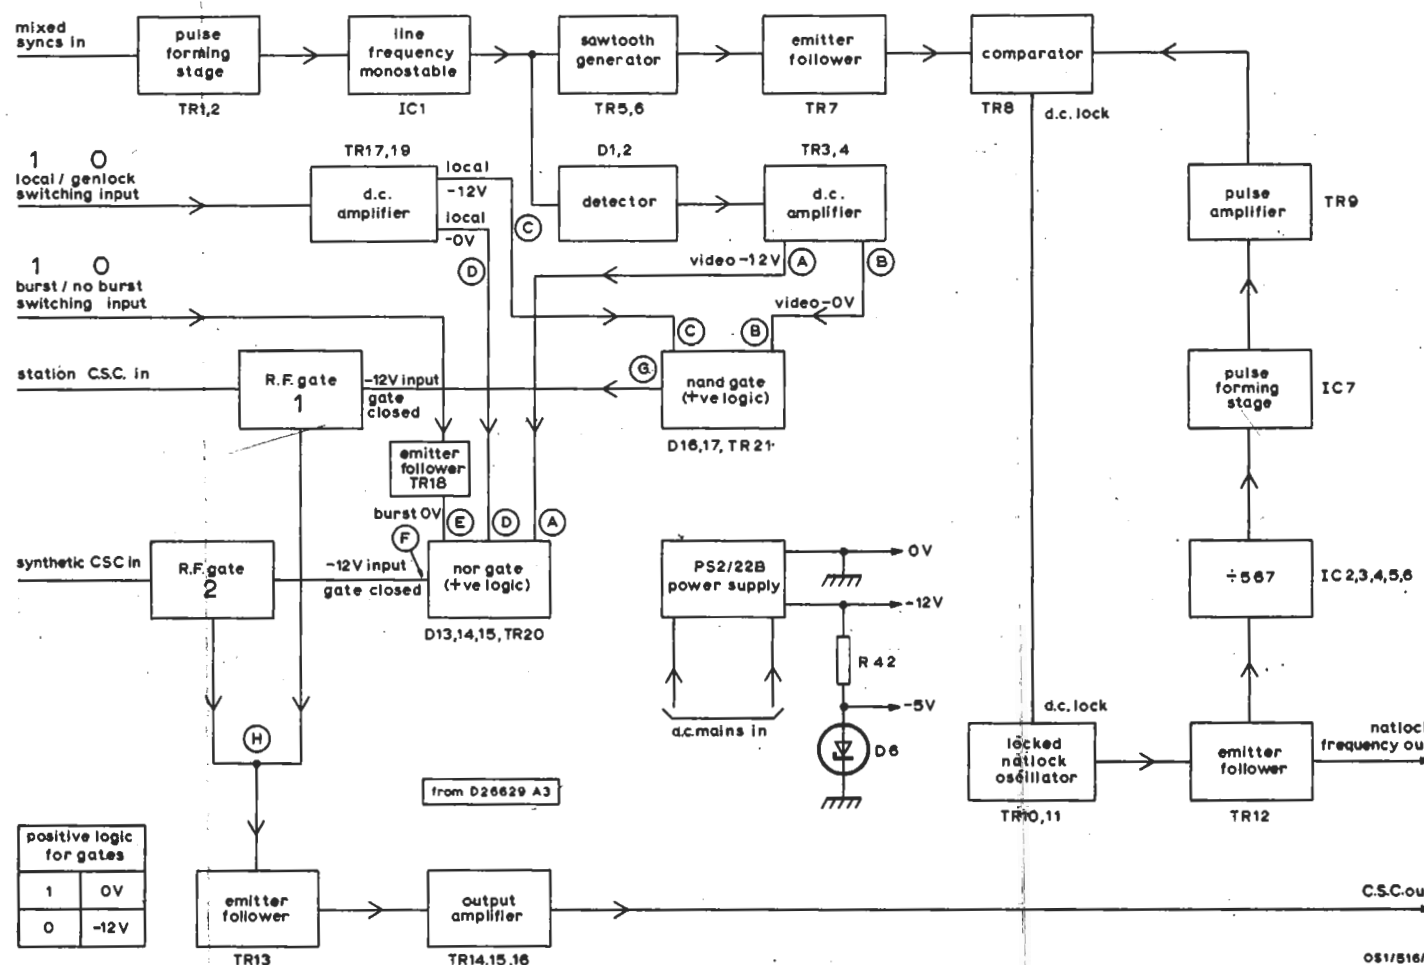
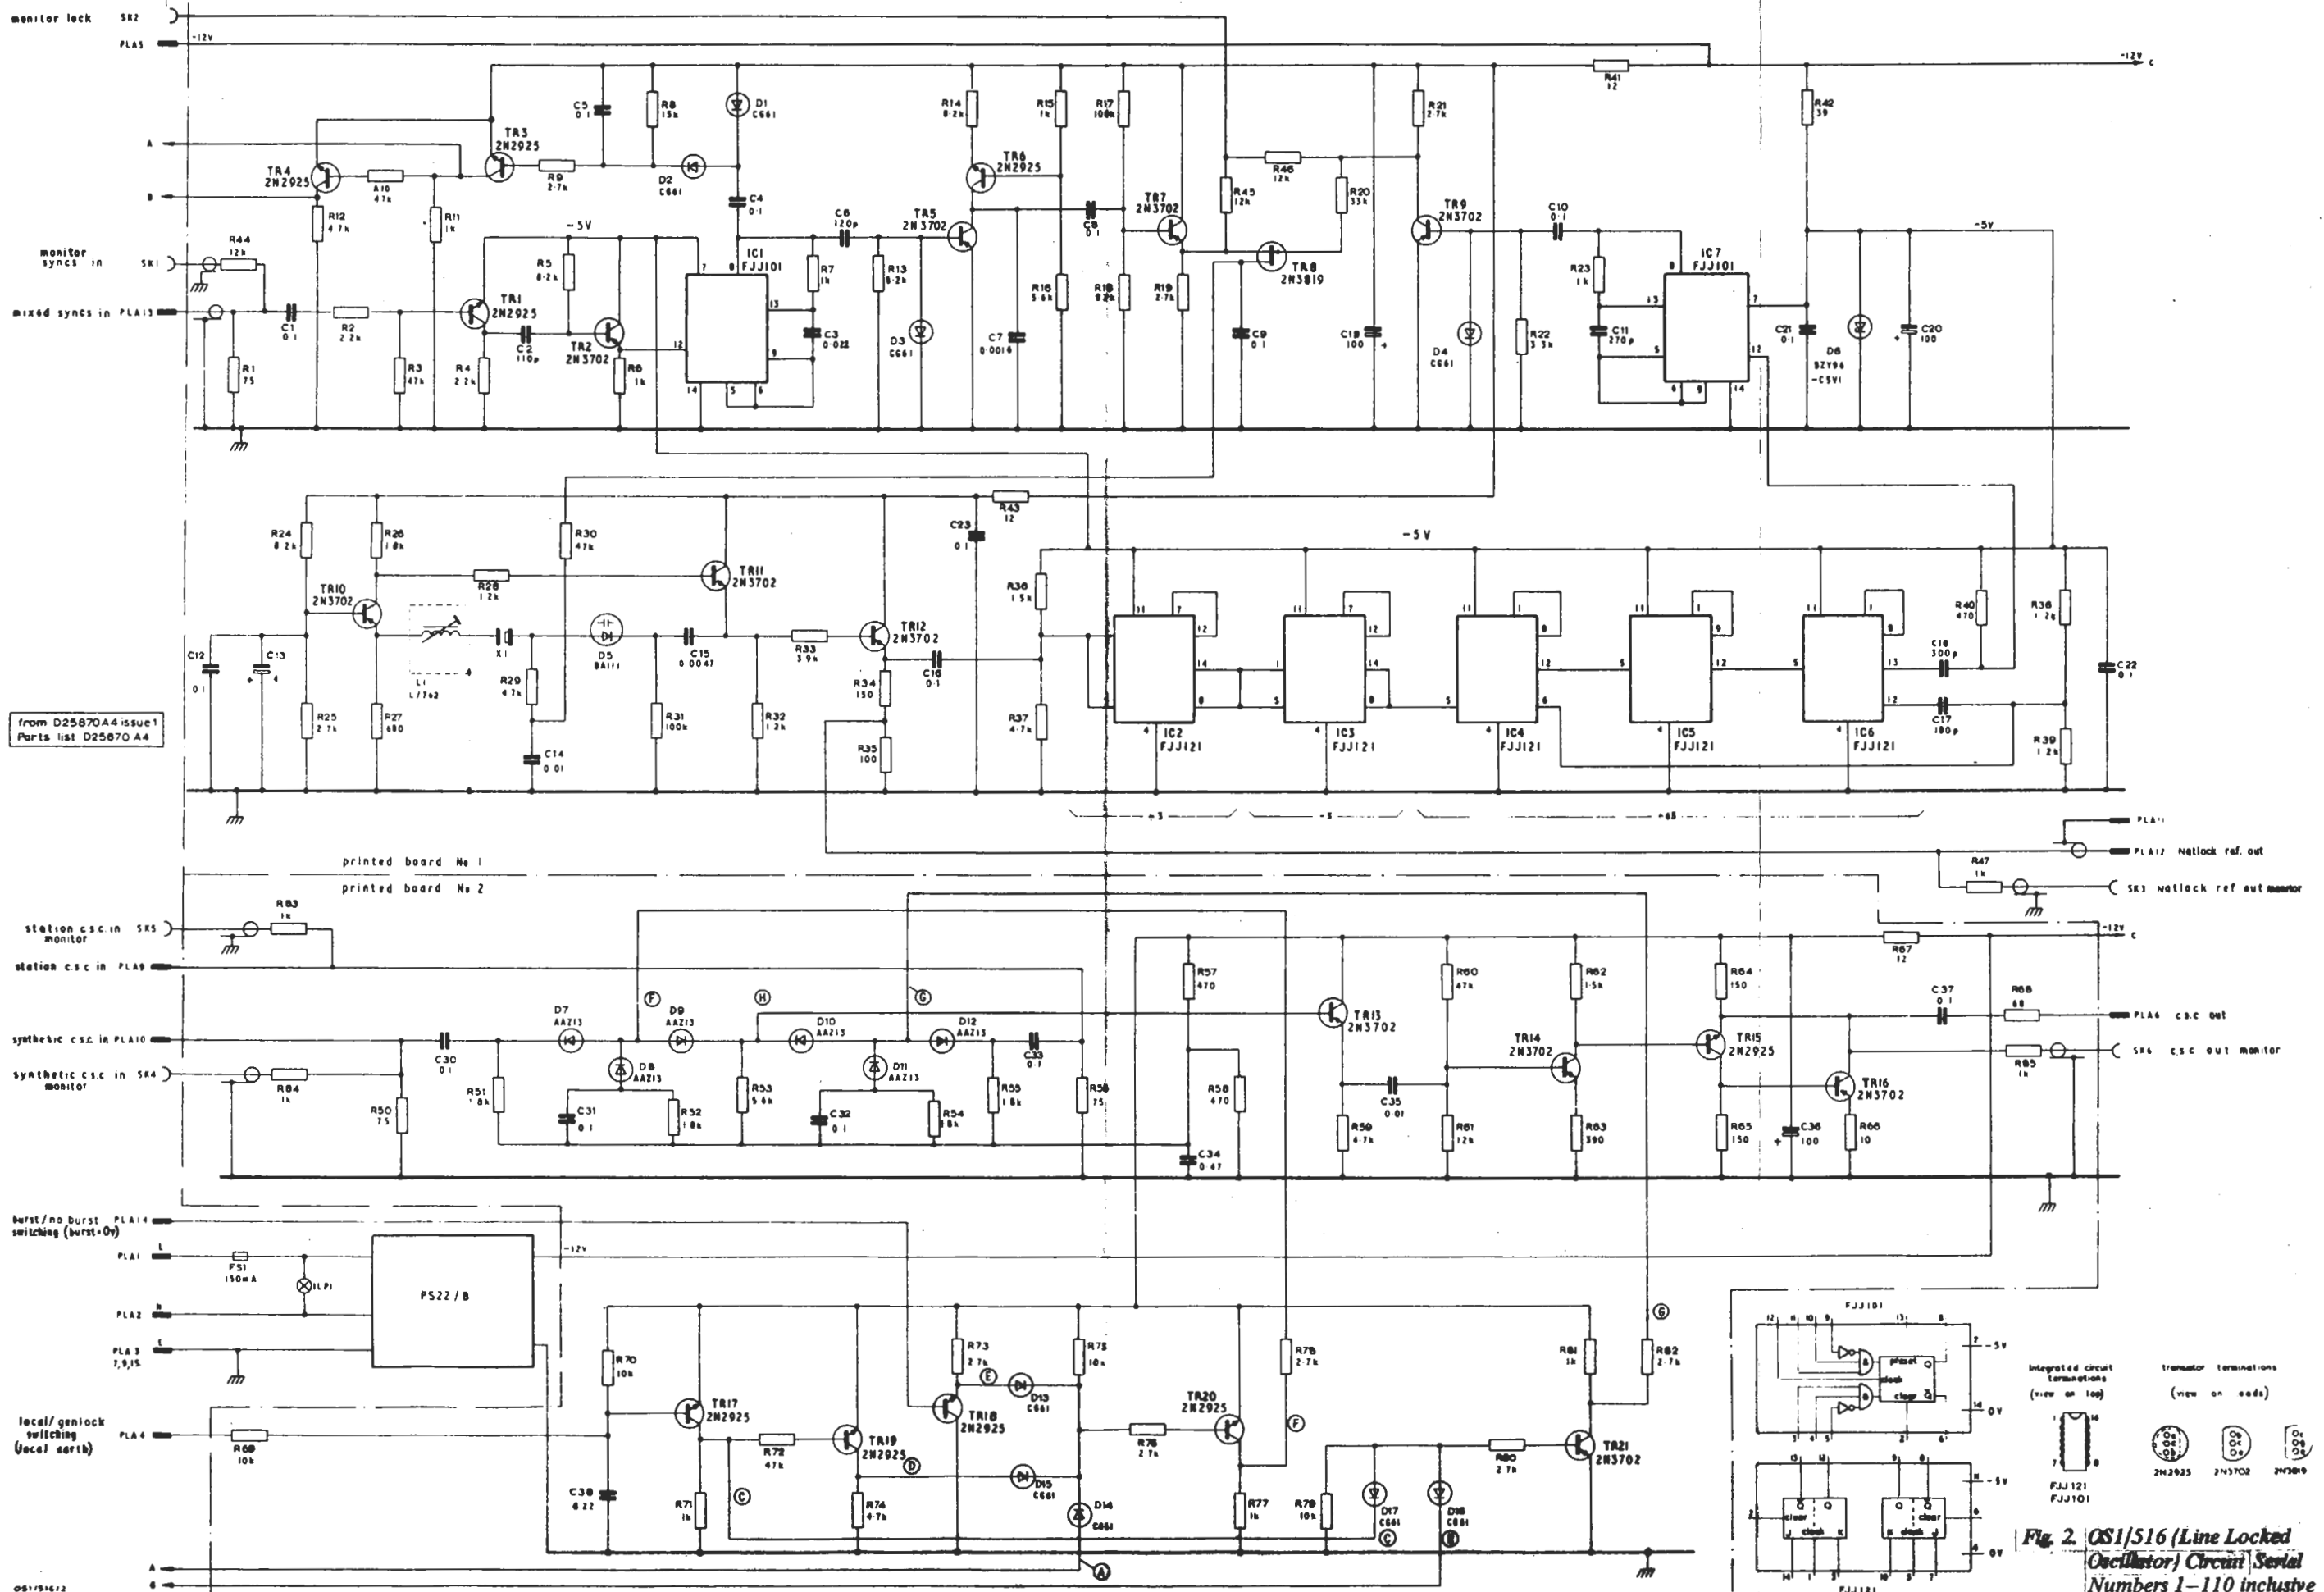

Fig. 1. Block Diagram of the OS1/516
Fig. 2. OS1/516 (Line Locked Oscillator) Circuit Serial Numbers 1-110 inclusive
Fig. 1 shows a block diagram of the OS1/516.
The Local/Genlock and Burst/No Burst control inputs are switched to 0 V or -12 V outside the OS1/516, but the Video/No Video control signals are derived within the unit. An output of monostable IC1 is applied to a detector formed by D1 and D2, the output of which is integrated and fed to a d.c. amplifier TR3 and TR4. TR3 output (designated A in Figs. 1 and 2) is -12 V when syncs are present at the input of the unit and 0 V when they are not. Conversely TR4 output (designated B in Figs. 1 and
2) is 0 V when syncs are present and -12 V when they are not. Points A and B are connected to the gating circuits as shown in Fig. 1.
Note: Gate inputs on this Table are in the order in which they are shown on Fig. 1, i.e. E, D, A for the NOR gate and C, B for the NAND gate.
The circuit of the OS1/516 is shown in Fig. 2.
Encircled letters on Fig. 2 correspond with those on Fig. 1 and indicate salient points in the gating circuitry.